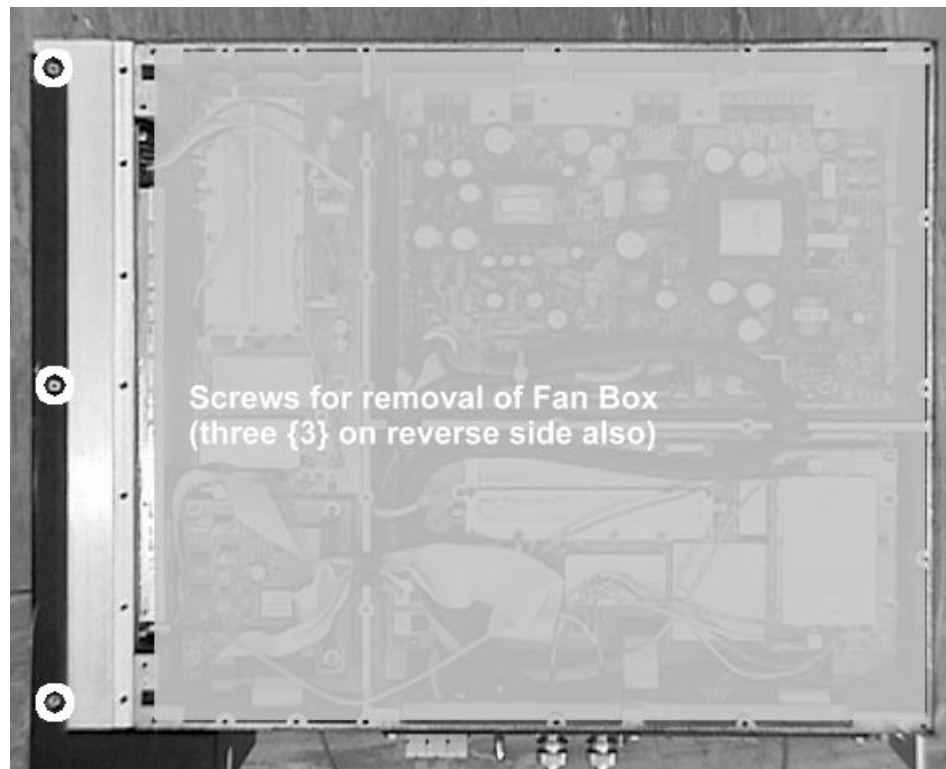

Figure 7.19: Bottom Cover Screws for UHF PA Removal
3. Remove the six screws securing the cooling fan box assembly (see Figure 7.19) to the PA heatsink to reveal the heatsink securing screws.
9. Reconnect the Fan control wires as noted in 4. above and position the Fan Box over the PA Heatsink. Refit the six screws securing the Fan Box to the PA Heatsink (Refer to Figure 7.19).